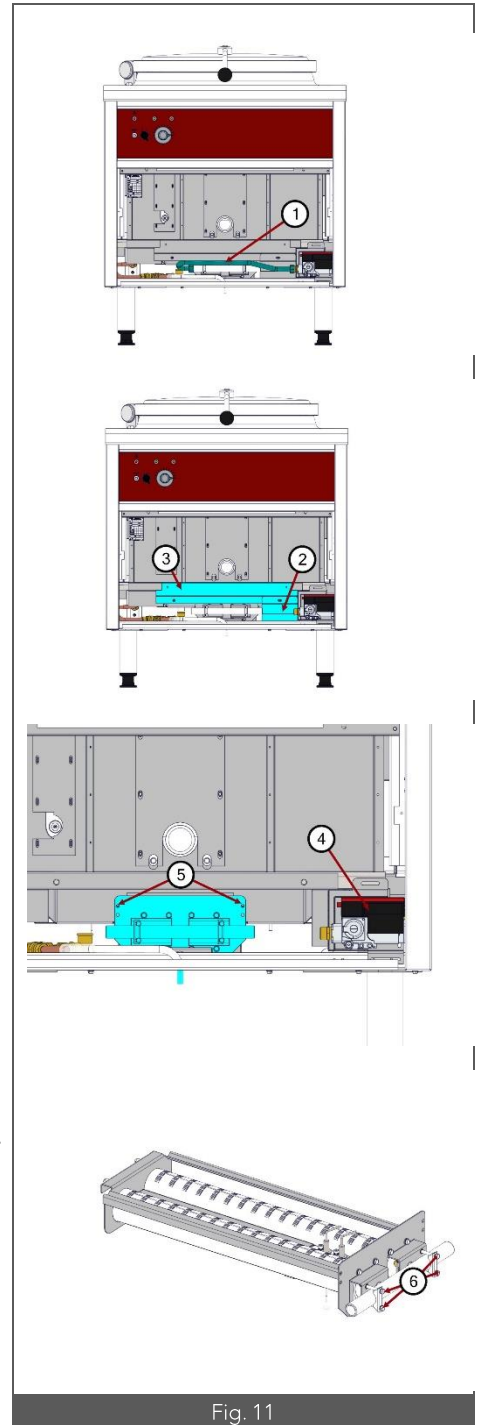

Fig. 11
- Remove the gas supply flexible pipe (Fig. 11 – N° 1)
- Unscrew the insulating and deflective plates (Fig. 11 – N° 2 & 3). Then, remove the insulating wool.